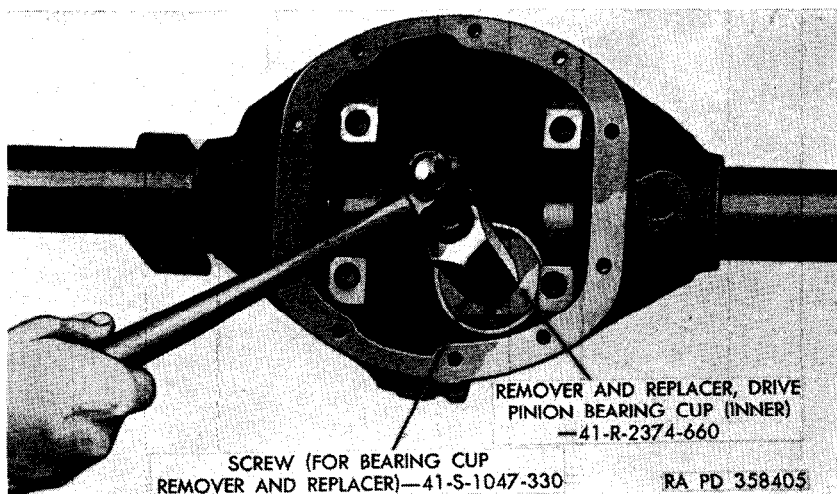

Figure 73. Replacing drive pinion inner bearing cup.
c. Drive Pinion Bearing Cup Replacement (fig. 73). Remove the drive pinion inner and outer bearing cups (AA and EE, fig. 65), using remover and replacer 41-R-2374-660 for inner drive pinion bearing cup and remover and replacer 41-R-2374-665 for outer drive pinion cup. To install new drive pinion bearing cups, use appropriate remover and replacer. Place the original thickness of large and small drive pinion bearing shims (BB and DD, fig. 65) between the drive pinion bearing cups and axle housing. Tap the drive pinion bearing cups lightly around the entire circumference until flush with the shoulder in axle housing.